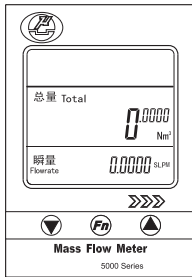

Figure 6-6 User Interface
(1) The user interface (Figure 6-6):